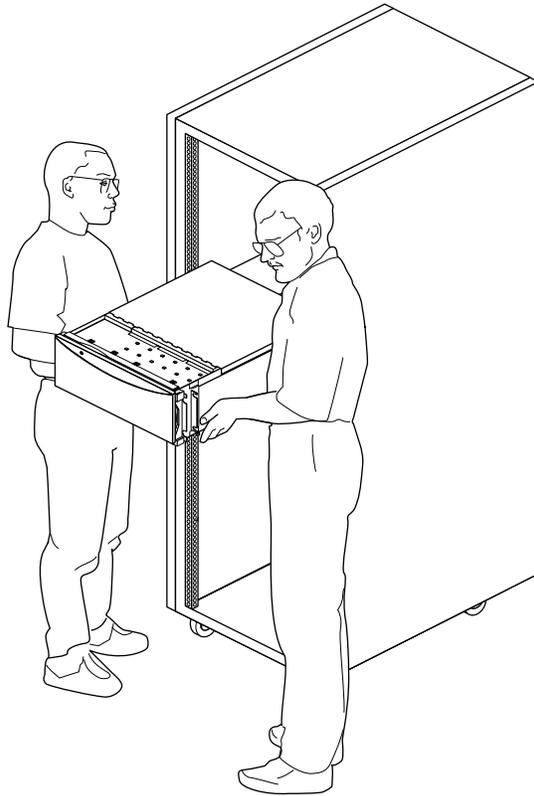

Figure 1-3 Removing the Chassis From the Rack
4. With two people, one standing on each side of the chassis, slide the chassis out of the rack, as shown in Figure 1-3.